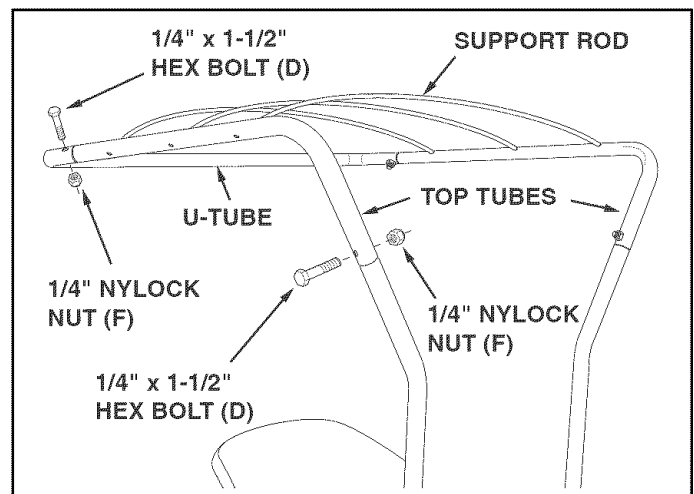

FIGURE 9
STEP 9: (SEE FIGURE 9)
- Assemble the top tubes to the upright tubes using two 1/4" x 1-1/2" hex bolts (D) (outside) and two 1/4" nylock nuts (F) (inside). **Do not tighten yet.**
- Fit the front U-tube onto the top tubes. Fasten the tubes together using two 1/4" x 1-1/2" hex bolts (D) (outside) and two 1/4" nylock nuts (F) (inside). **Tighten all** loose bolts and nuts.